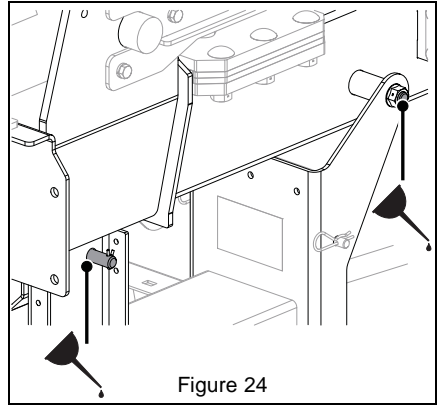

Figure 24
1. Apply oil to all pivot points and pin connections. See Figure 24.